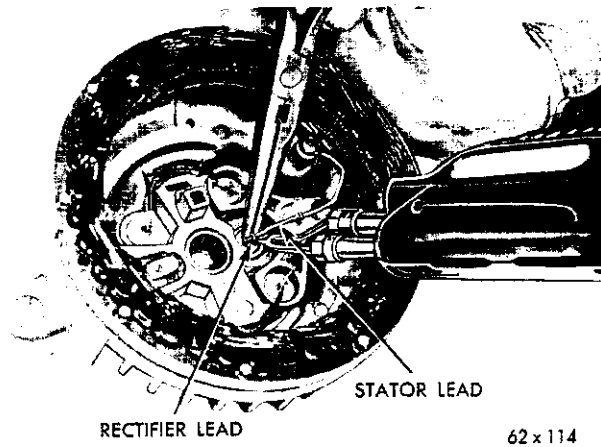

Fig. 73—Soldering the Rectifier and Stator Leads
(4) Solder the wire lead to the wires disconnected at removal. Hold the wire lead with pliers (Fig. 73) while soldering it. This will help to dissipate heat,